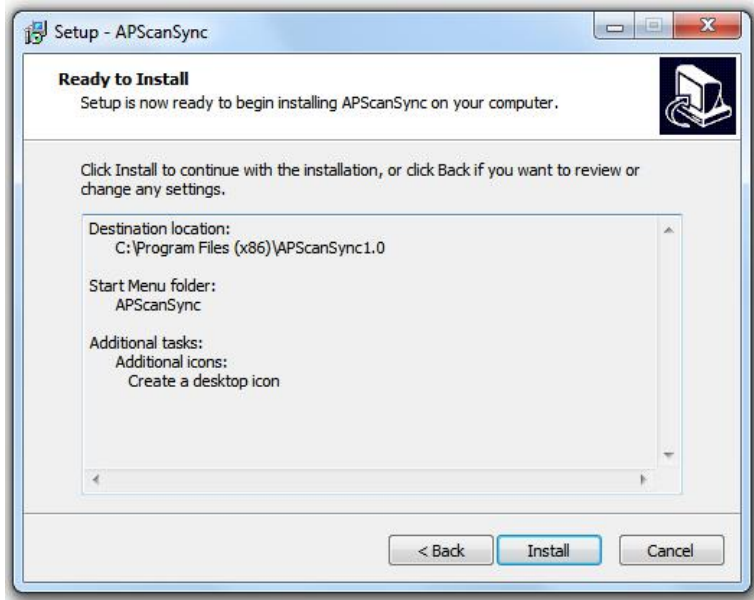

Figure 2-5
6. The dialog box to review the installation parameters is displayed (Figure 2-5). Select [Install] to start the installation.